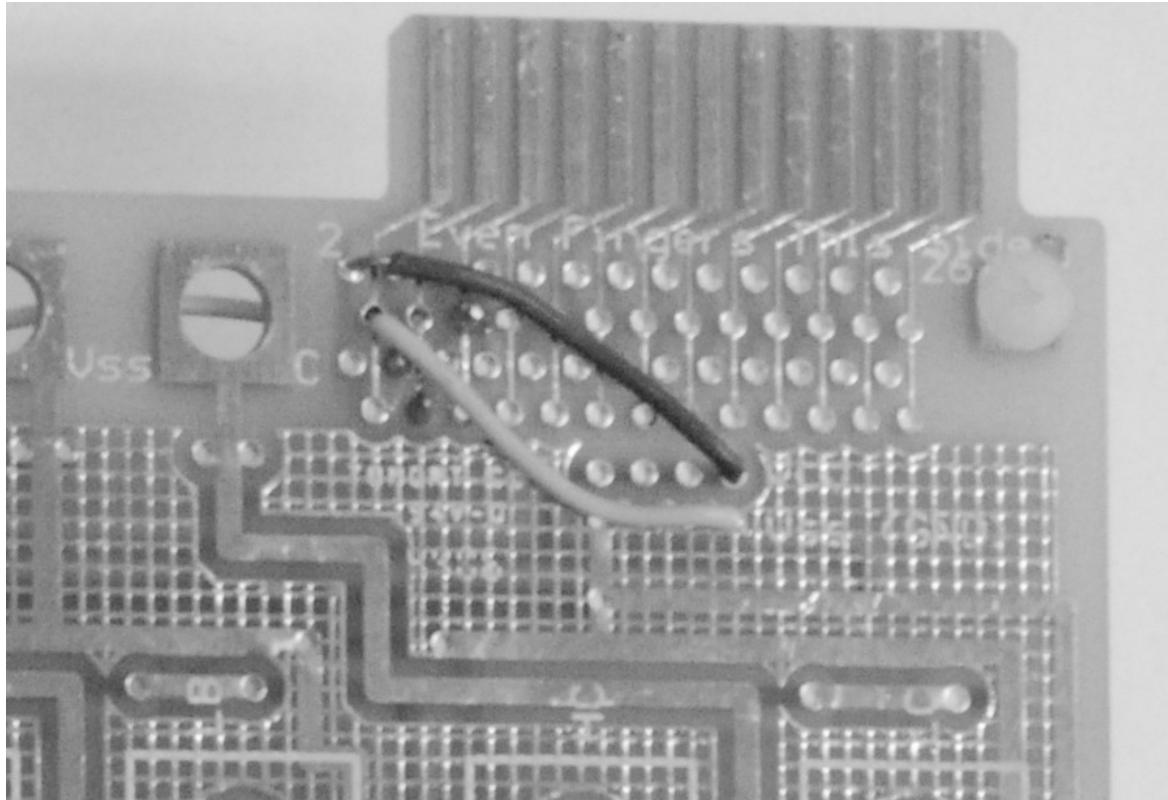

Figure 10. Close up of Testing Wire Connections (on front)
- 5- Also connect two more wires from Finger connections to Vss and Vcc. Please refer to Figures 10 and 11.